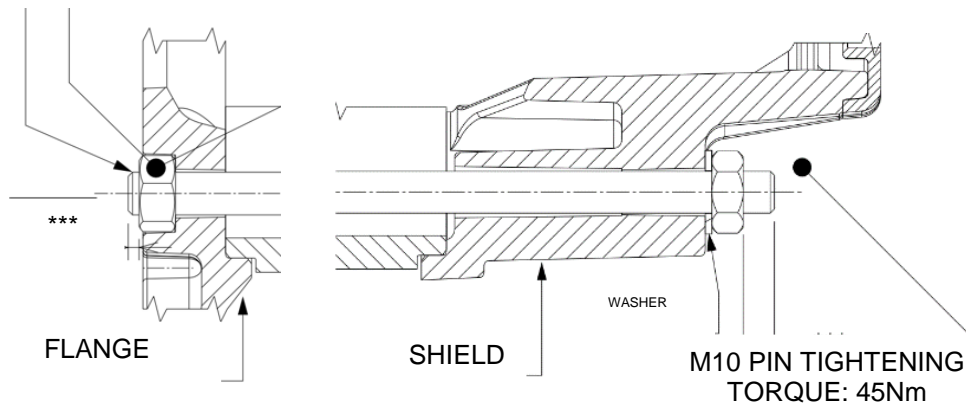

Fig. 15
9. Check the final protrusion \*\*\* of the tie rod on the SAE flange side: it must be in the range 1.5 to 3mm, as shown in figures 15 and 16.